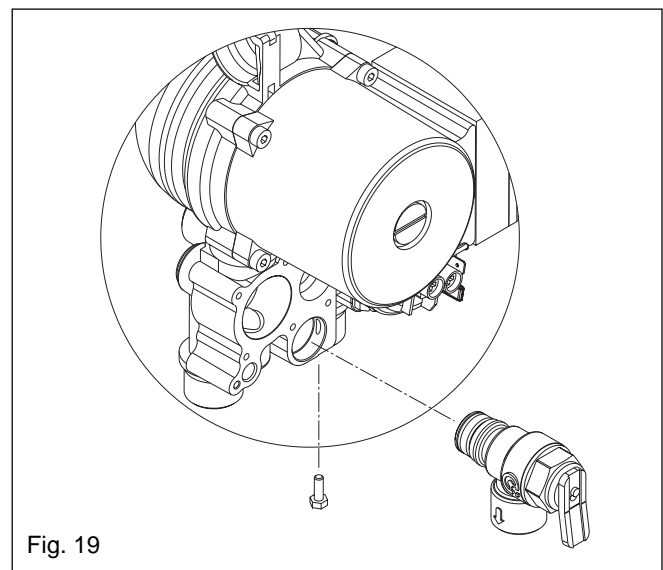

Fig. 19
**6.6    SAFETY VALVE (see fig. 19)**